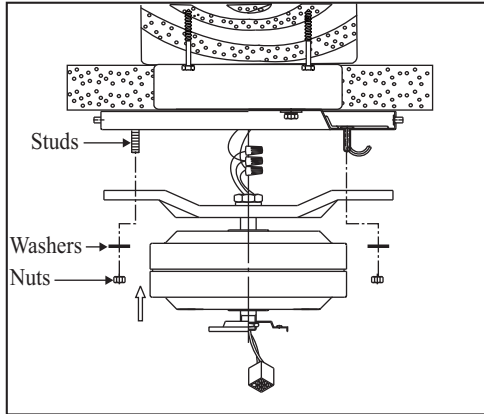

Figure 9
1. Move fan into position over the four mounting studs and secure with the provided washers and nuts. (Fig. 9)